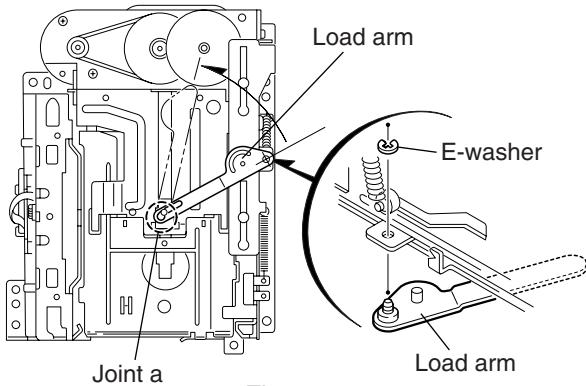

Fig.1
■Removing the side bracket (L) and (R) / load board (See Fig.1 to 4)
3. Remove the spring (1) attaching the trig lever.